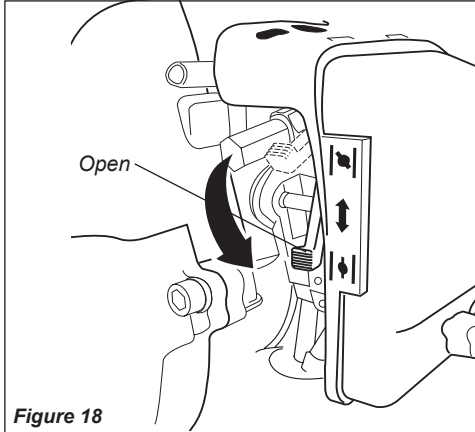

Figure 18
- When the engine starts, slowly move the choke lever to the "OPEN" position. See Figure 18. (If the engine stops after the initial start, close the choke and restart.)